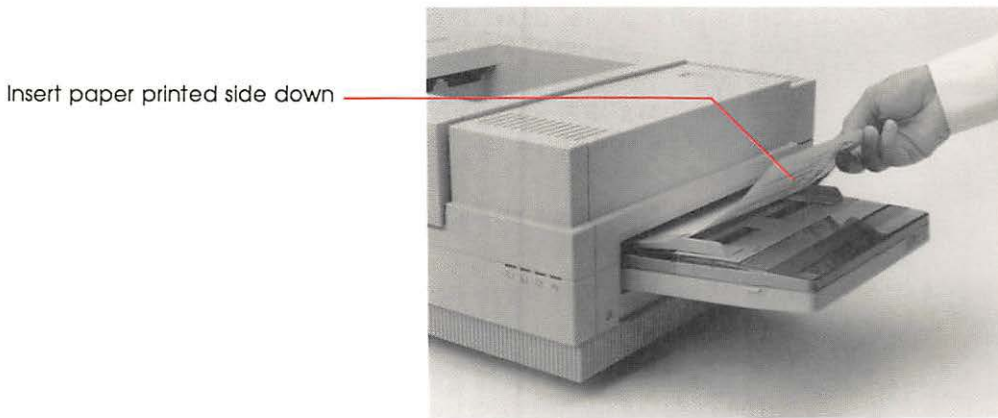

Figure 3-10
3. Insert the paper again, printed side down, with the top of the printed side entering the printer first. (See Figure 3-10.)